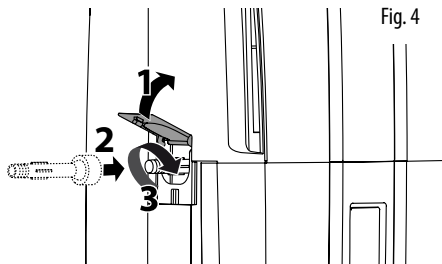

Fig. 4
- Open the door on the side of the appliance and screw the nozzle onto the fitting, as shown in figure 4.